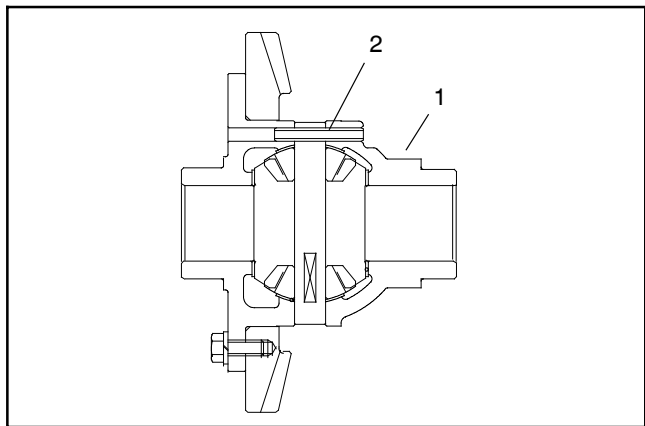

Figure 40
6. Drive the spring pin from the differential case with a punch and hammer. Discard the spring pin (Fig. 40).